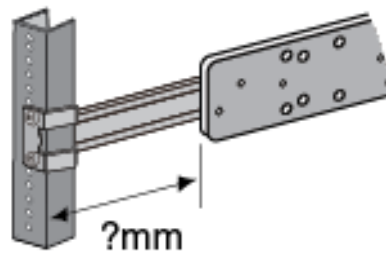

Figure 89. Measuring for the Extension Brackets
3. Measure the distance from the front of the equipment rack to the front of the inner rail. This will be the approximate length of the extension brackets. Refer to Figure 89.